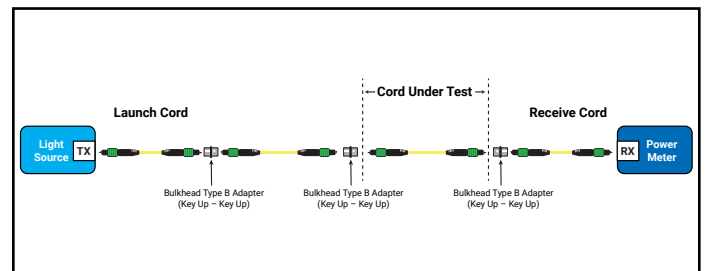

Figure 10e: Pinned-pinned test cord verification configuration
11. Connect the extension cord and Cord Under Test per diagram in Figure 10e.